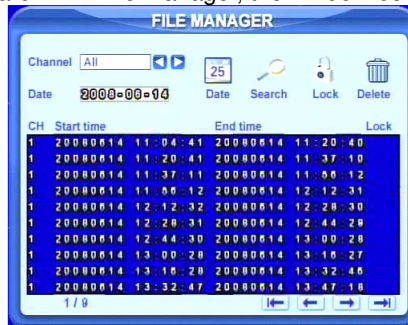

Fig 5.9 File Manager
STEP4 Select the files and click Lock, it will lock the selected files. At this time, a letter "L" will display at the end of the file rows as in Fig 5.9 File Manager.